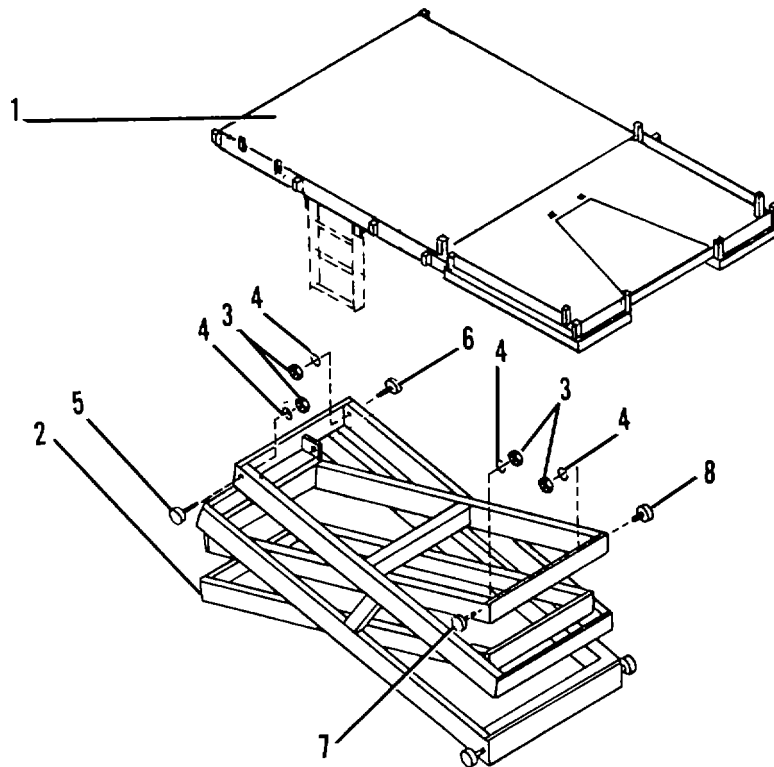

Figure 4-36. Platform Rollers.
- (1) Install slings on platform (1, Figure 4-36). Use care not to lift on scissors (2).
- (2) Take slack out of slings.
- (3) Remove nut (3) and lockwasher (4) from damaged roller(s) (5, 6, 7 or 8) from scissors (2). Remove roller(s).